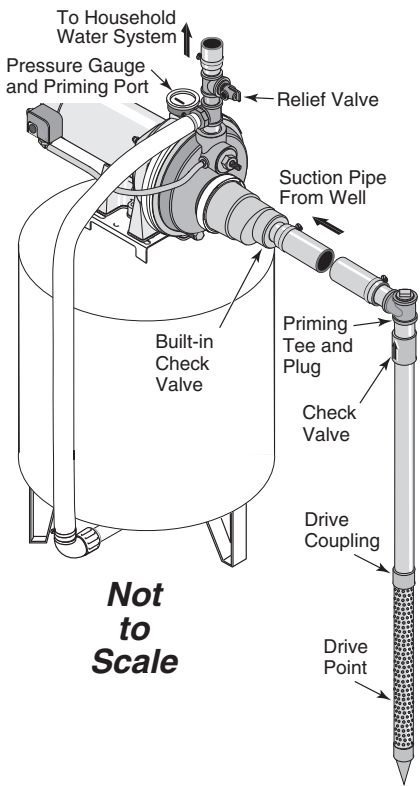

Figure 5 - Driven Point Installation
5. Use the fewest possible fittings (especially elbows) when connecting the pipe from the well point to the pump suction port. The suction pipe should be at least as large as the suction port on the pump (include a check valve - see Figure 5). Support the pipe so that there are no dips or sags in the pipe, so it doesn't strain the pump body, and so that it slopes slightly upward from the well to the pump (high spots can cause air pockets which can air lock the pump). Seal the suction pipe joints with PTFE pipe thread sealant tape or a PTFE-based pipe joint compound approved for use on PVC. Joints must be air- and water-tight. If the suction pipe can suck air, the pump cannot pull water from the well. If one well point does not supply enough water, consider connecting two or three well points to one suction pipe.